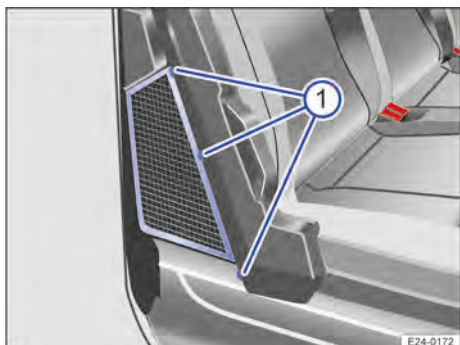

Fig. 140 Load restraint net attached in bench seat position.
When using in the seat position: attach the retaining rings in the holders on the seat frame → Fig. 140 ①.